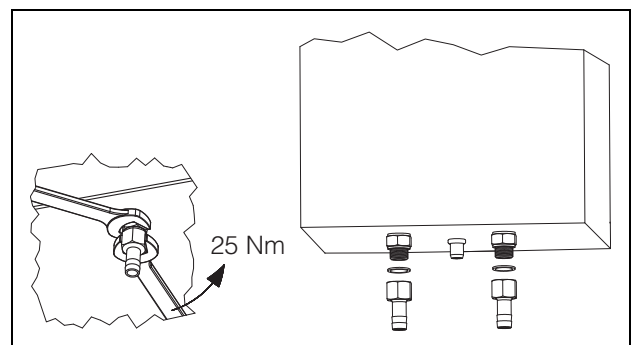

Fig. 16: Remove the connector sleeve
- To this end, you will need to remove the connector sleeve attached to the device (see fig. 16).
- To this end, you will need to remove the connector sleeve attached to the device (see page 9, fig. 16).